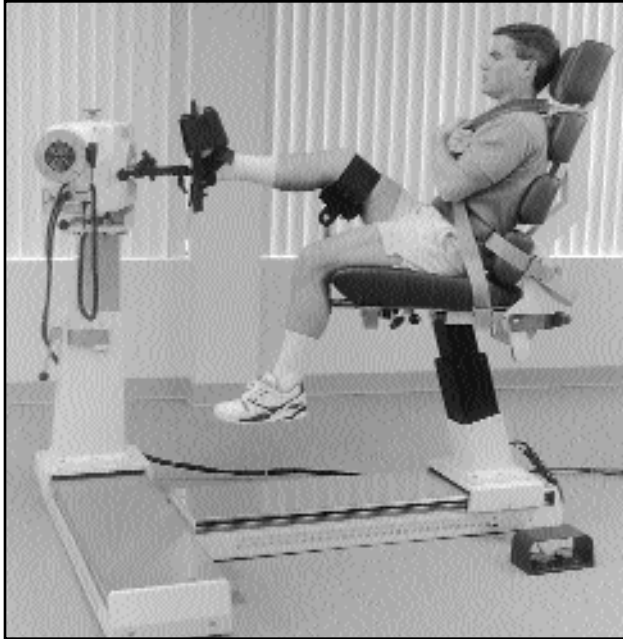

Figure 4.10
5. Install the MULTI-SUPPORT PAD as shown in Figures 4.13 and 4.14. The pad should be positioned under subject's thigh, proximal to the knee as shown in Figure 4.10. Loosen the MULTI-SUPPORT PAD ADJUST LEVER and tilt the padded end of the multi-support to an approximate 60° angle for support of thigh and tibia. Tighten the lever to lock the pad in position. Secure the MULTI-SUPPORT STRAP. Install FOOTREST if desired.